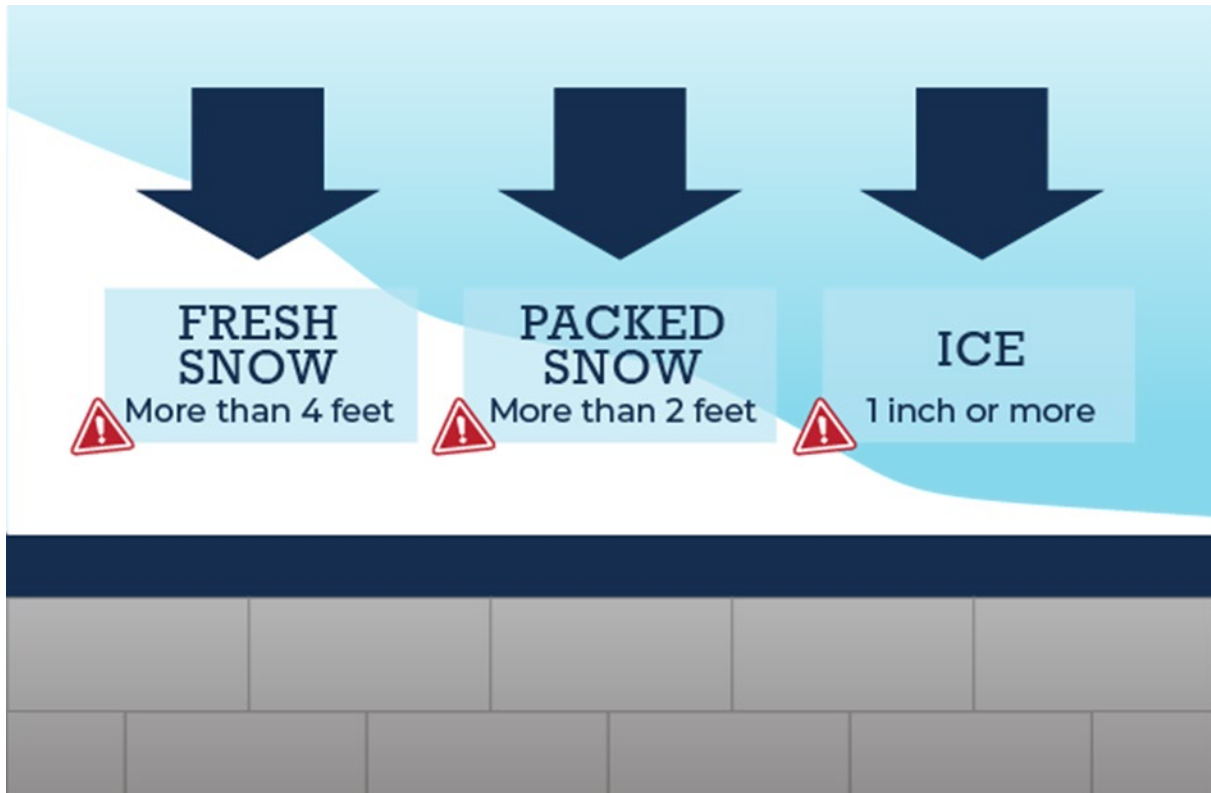

Figure 2. Snow and Ice Equivalent
During and after a snow storm it is important to understand the total weight of snow there is on a roof. When it is safe to do so, conduct a visual assessment of the snow and note the type of snow. If you have an accumulation of snow and/or ice on your roof similar to Figure 2 or if the load you estimate (based on the depth of accumulations) exceeds 20–25 pounds per square foot (psf), you should have the snow removed from your roof.
- For existing buildings, hire a structural engineer to verify snow load threshold of the roofing system. After a winter weather event, conduct an assessment (visual and/or measurements) of the snow and ice equivalent as described in Figure 2. Compare the estimated loads to the loads determined by the structural engineer.
- After a significant winter weather event, conduct an assessment (visual and/or measurements) of the snow drift and determine its weight as described in Figure 2. Compare the estimated loads to the snow drift loads determined by the structural engineer.